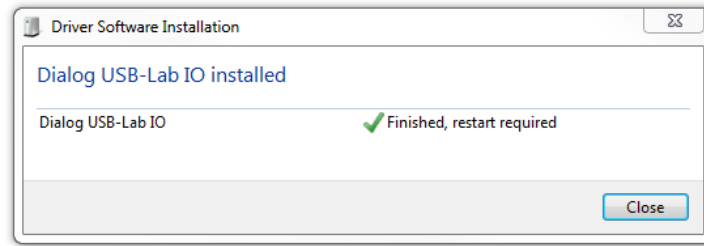

Figure 20. Installation complete
9. After the USB driver is installed (Figure 20), to run the DA728x GUI, double-click the desktop icon (Figure 21). If the driver does not install successfully, follow the manual driver installation instructions in Section 8.1.